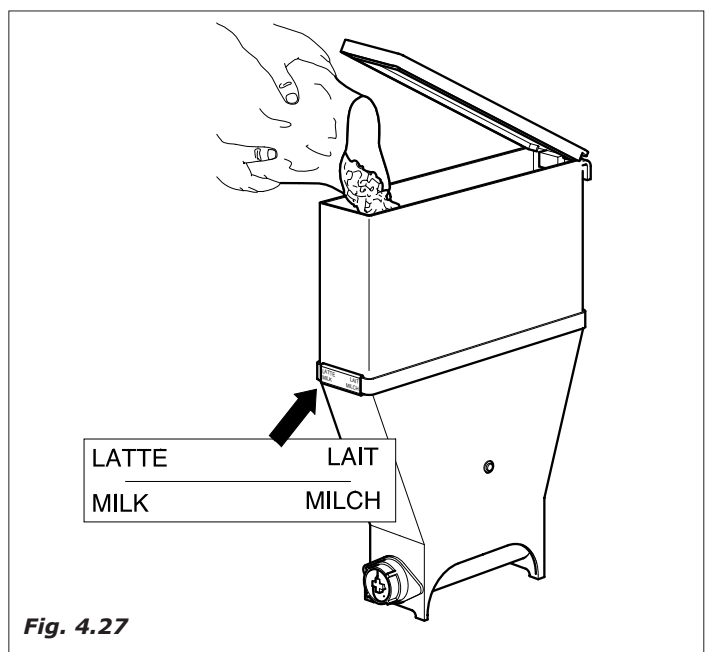

Fig. 4.27
- remove the covers of each container and load the product according to the product indicated on the label (Fig.4.27)